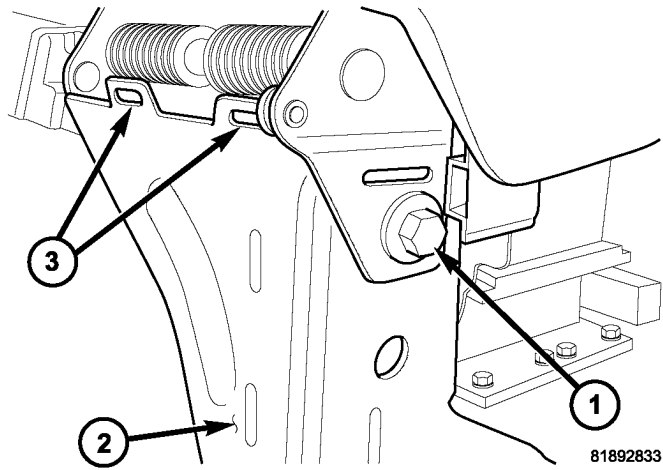

Fig. 3 OUTBOARD TUMBLE MECHANISM BOLT
3. Note the position of the two tabs (fore and aft) on the forward seat leg (Fig. 3).
4. Make sure the seat is in the fold flat position with the latches engaged. Loosen the outboard tumble mechanism bolt (Fig. 3).
8. Have the tabs on the forward seat leg moved from their original position as illustrated in (Fig. 3)?
10. Tighten the outboard tumble mechanism bolt to 34 N·m (25 ft. lbs.) (Fig. 3).